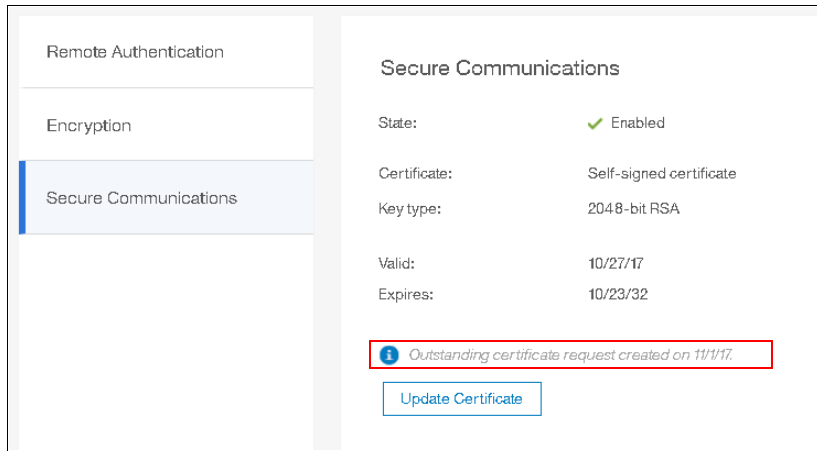

Figure 7-76 Outstanding certificate request
3. Save the generated request file. The Secure Communications window now indicates that an outstanding certificate request is present, as shown in Figure 7-76 on page 282. This issue occurs until the associated signed certificate is installed.